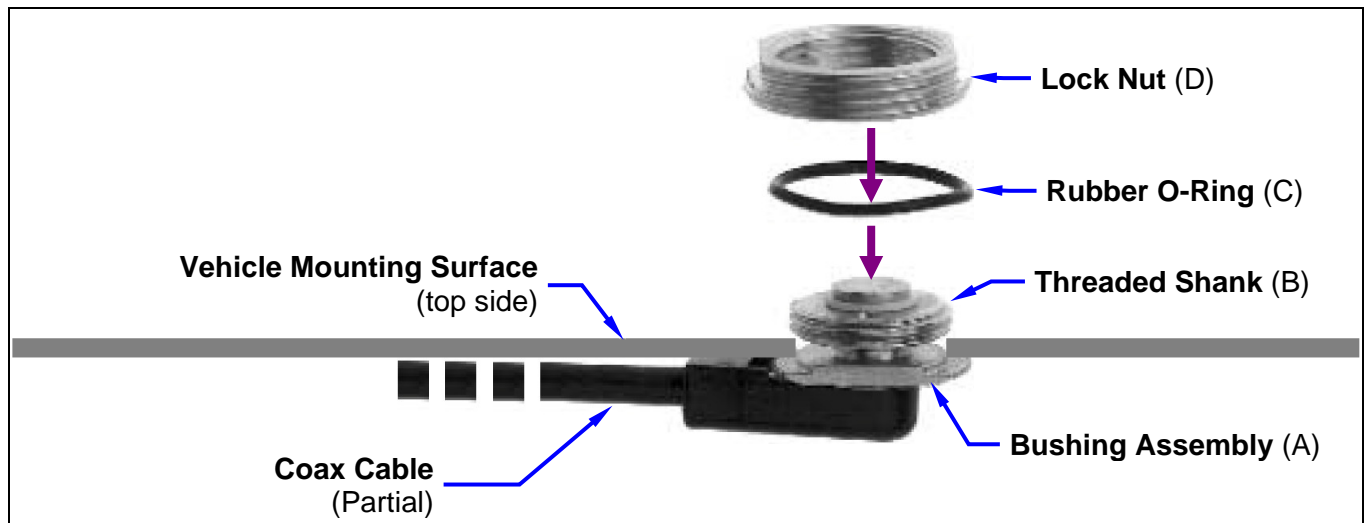
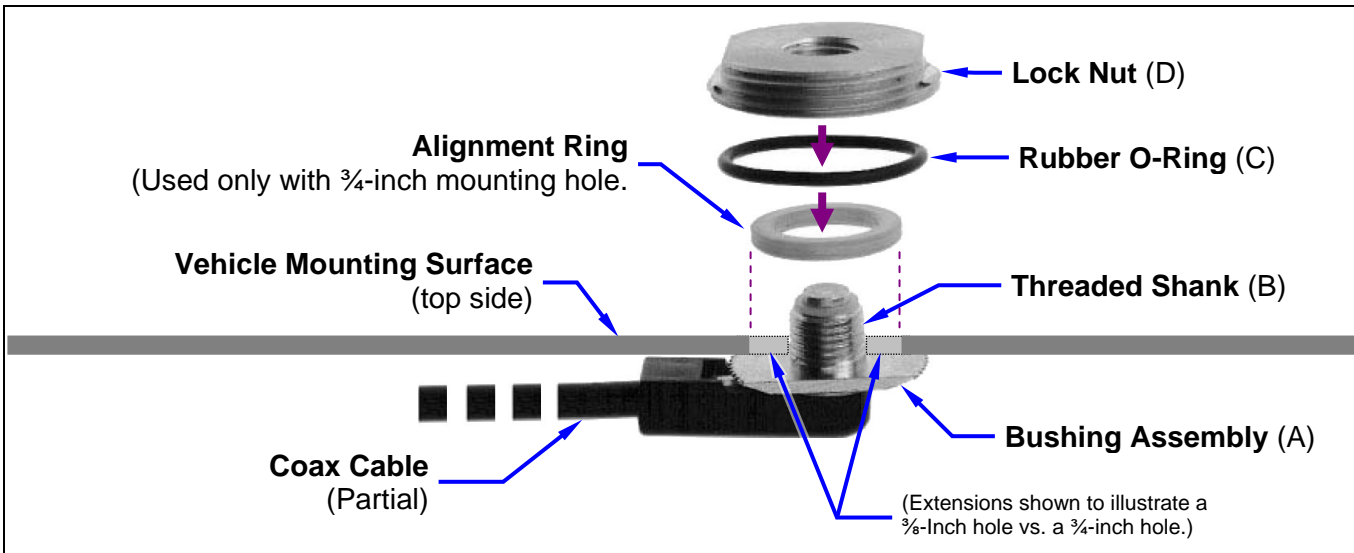

Figure 7-4: Installing a Standard 3/4-Inch NMO Antenna Mount (e.g., AN-125001-001 or AN-125001-002)
Figure 7-5: Installing a Thick-Roof NMO Antenna Mount
11. As illustrated in Figure 7-4 and Figure 7-5, add the O-ring (C) and lock nut (D) to the top of the mount’s bushing assembly (A). With the O-ring in the groove in the underside of the lock nut, thread the lock nut onto the bushing assembly. Be sure the O-ring remains in the groove before tightening the lock nut.
2. Place the gasket included with the antenna element (not pictured in Figure 7-4 or Figure 7-5) around the mount and against the surface of the vehicle. If a lubricant or sealant was included with the gasket, apply it to the gasket before placing the gasket.